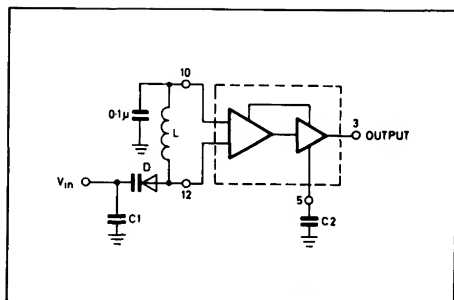

Fig. 5 The SP1648 operating in the voltage-controlled mode
When operating the oscillator in the voltage controlled mode (Figure 5), it should be noted that the cathode of the varactor diode (D) should be biased at least  $2 V_{BE}$  above  $V_{EE}$  ( $\approx 1.4$  V for positive supply operation).
Capacitors (C1 and C2 of Figure 5) should be used to bypass the AGC point and the VCO input (varactor diode), guaranteeing only dc levels at these points.